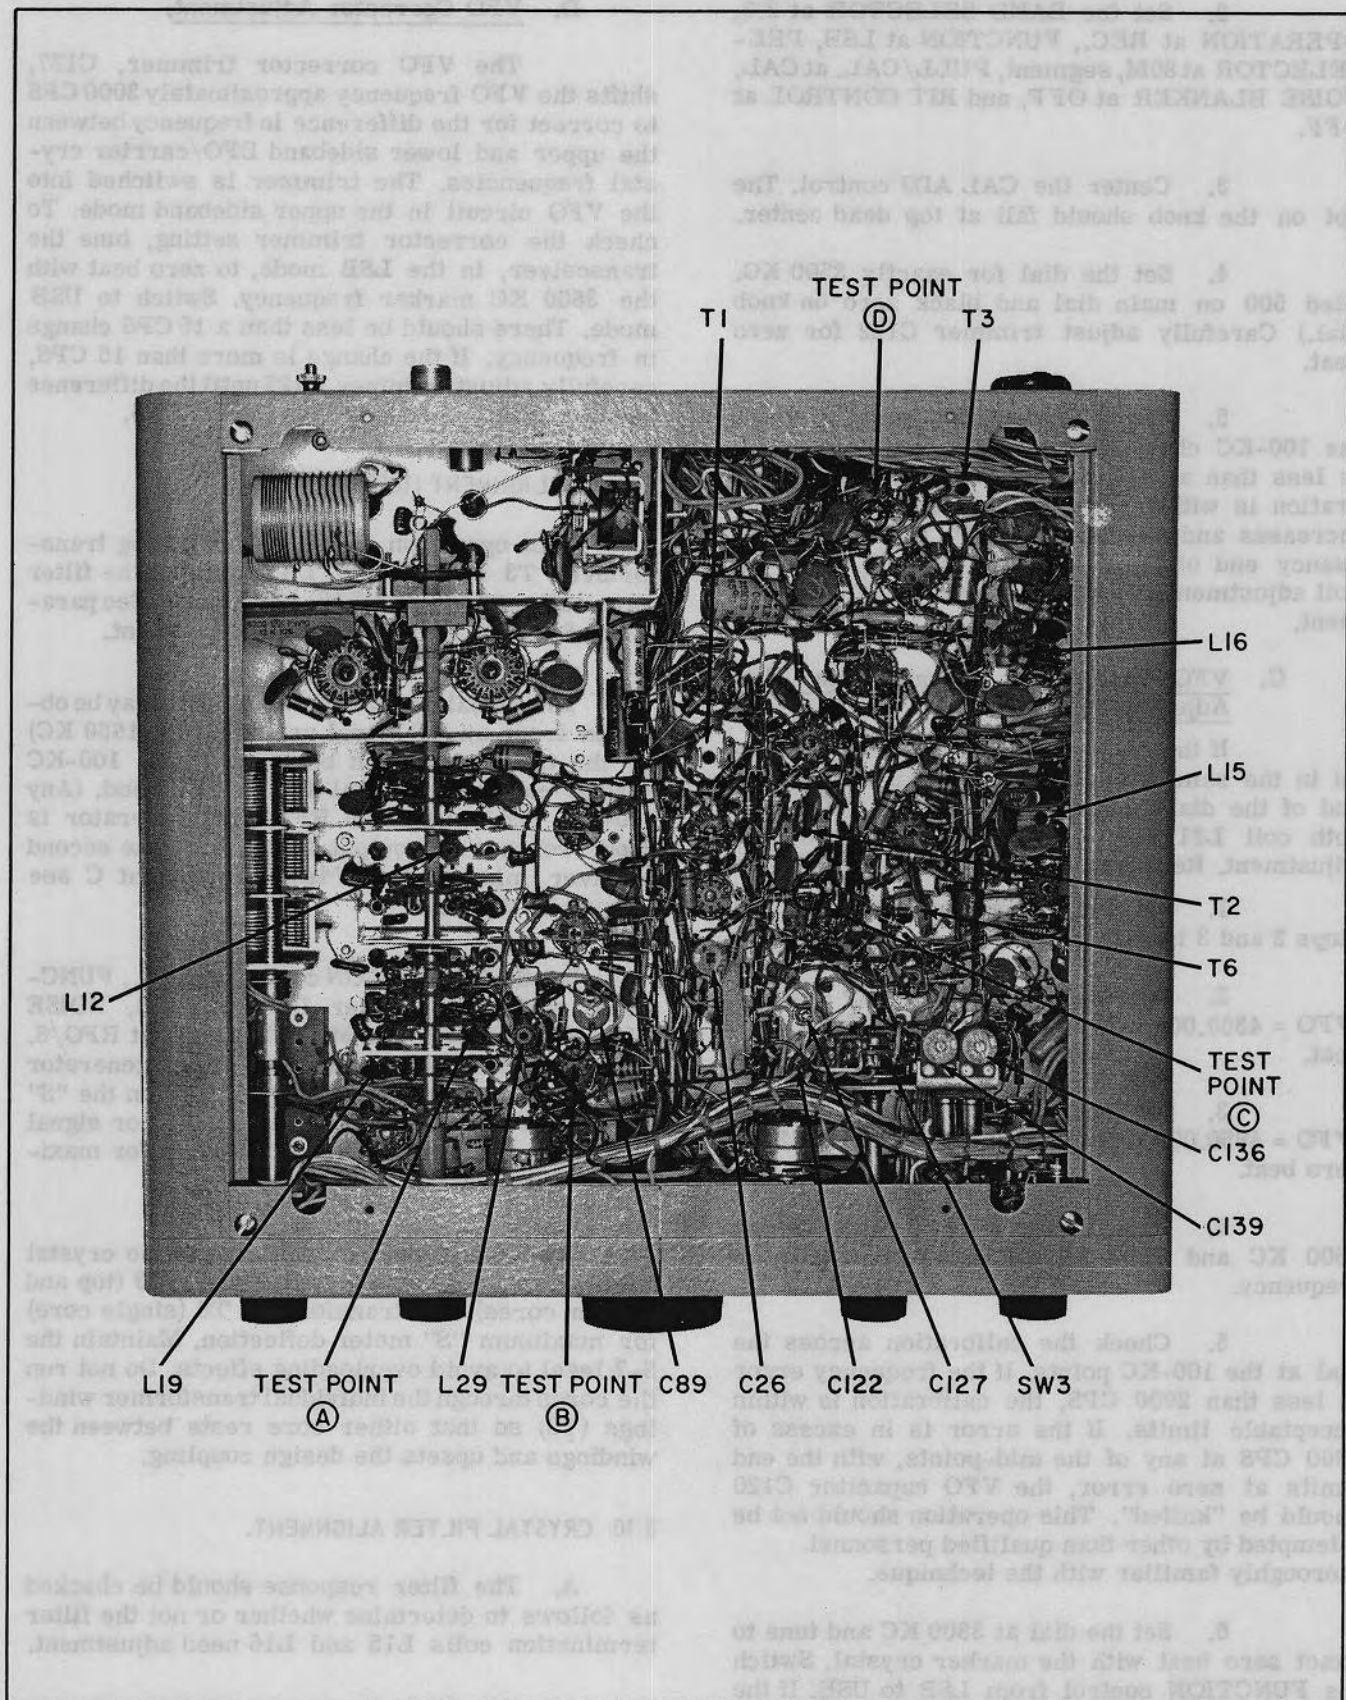

Figure 17. Model SR-400 Bottom View, Alignment Adjustment.
The transceiver should be allowed to reach operating temperature before making the carrier balance adjustments. Remove the top cabinet cover per paragraph 7-1A to gain access to the carrier balance adjustments C192 and R132 (see figure 17).
1. Remove the bottom cabinet cover per paragraph 7-1B to gain access to the adjustment screw of trimmer C122. See figure 17 for location of the trimmer.
The signal source for alignment may be obtained from an RF signal generator (at 1650 KC) or the transceiver can be tuned to the 100-KC crystal calibrator signal in the 20M band. (Any 100-KC marker.) If an RF signal generator is used, connect its output to pin 2 of the second receiver mixer tube (V4A). (Test point C see figures 17 and 31.)
A. Remove the heterodyne oscillator tube (V12) and connect the HP410B VTVM RF probe to test point B. (Pin 7 of the second transmitter mixer tube V11A.) See figures 17 and 31.
A. Connect the 50-ohm dummy load and VTVM RF probe to the ANTENNA jack (J1 or J2). Connect the RF signal generator termination to test point A (see figures 17 and 31). Connect the signal lead to the receiver antenna coaxial cable termination at switch wafer S1D (4th wafer from front) and the ground lead to the first shield plate. Connect the AF voltmeter across the 500-ohm audio output transformer winding at the AUDIO 500 ohm jack (J5) located at the rear chassis apron. This arrangement will now permit transmitter and receiver operation without connecting and disconnecting test equipment repeatedly during alignment.
E. Set the OPERATION control at REC., RF GAIN and AF GAIN controls at maximum (10), RIT control at OFF and NOISE BLANKER at OFF. Do not change the VFO setting and PRESELECTOR control setting set up in step D. Tune the RF signal generator to 28,000 KC and adjust it for approximately 1000 CPS beat note. Use just enough signal generator output (approximately one microvolt for an aligned unit) to keep from developing AVC voltage (no "S" meter indication). Adjust coil L5 for maximum audio output without developing AVC voltage.
A. Set the core of transformer T4 before setting the oscillators to frequency. Connect the VTVM RF probe at test point D (Pin 8 of the product detector tube V9A), (see Figures 17 and 31). Set the OPERATION control at REC and check the injection voltage at test point D for both LSB and USB settings of the FUNCTION control.
The heterodyne crystal oscillator injection may be checked in the following manner to determine whether or not the core of coil L19 requires adjustment. Connect the VTVM RF probe to test point B (pin 7 of the second transmitter mixer tube V11A). (See figures 17 and 31.) Disable the VFO injection by removing VFO tube V13. Set the OPERATION control at MOX and the FUNCTION control at TUNE. Record the RMS injection voltage for all settings of the BAND SELECTOR control. Injection is normal if the injection voltage measures 2.0 to 2.5V RMS on 80M and 40M, 1.0 to 1.2V RMS on 20M and 15M, and 0.75 to 1.0V RMS on the 10M segments.